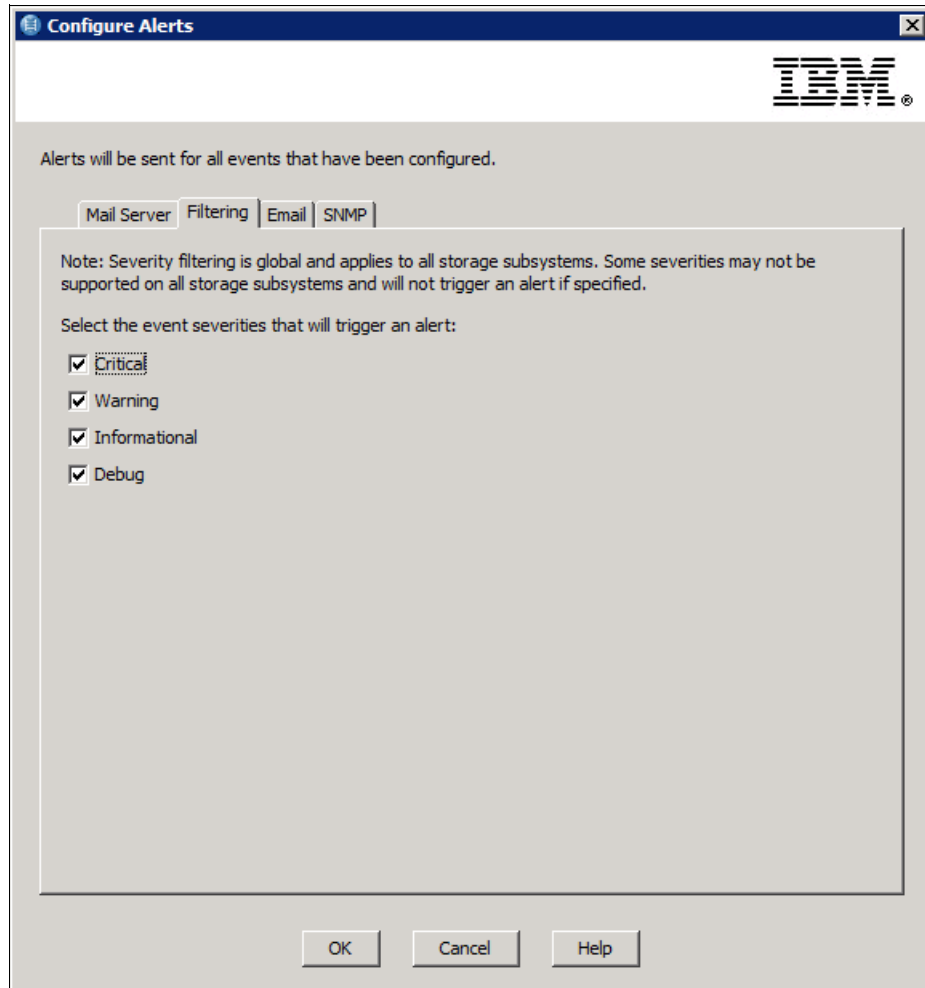

Figure 5-15 Filtering the event that will trigger the alert
2. Select the **Filtering** tab to configure the events that will trigger an alert, as shown in Figure 5-15.